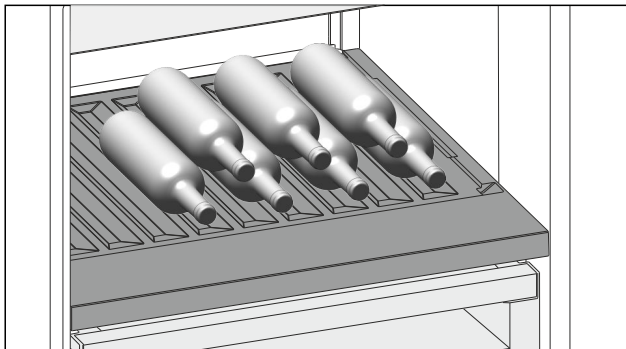

Fig. 163
- ▶ Place bottles in the back row with their bases against the back wall. (see Fig. 163)